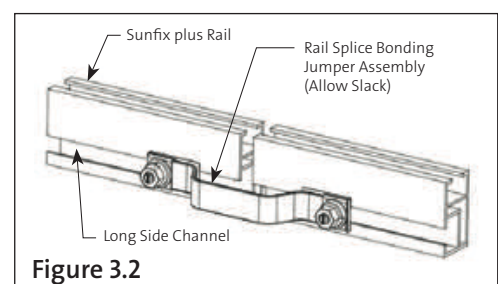

Figure 3.2
- 3.2. For rail-to-rail electrical continuity (bonding), a Rail Splice Bonding Jumper Assembly ⑨ is used. To install, insert assembly's T-bolts into the channel on the long side of rail and secure, similar to Steps 2.1 and 2.2. Be sure to allow slack in jumper to allow for thermal expansion. Refer to **Figure 3.2**. Tighten to 12 ft-lbs using general purpose anti-seize compound.